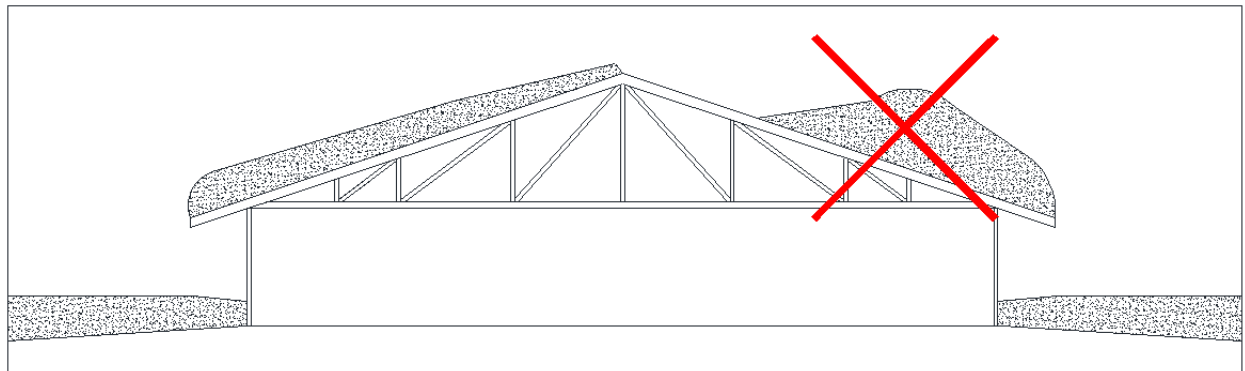

Figure 7. Roof snow load removed in an inappropriate manner – concentrated and unbalanced unloading.
- Pile large piles of moved snow atop the roof (Figures 7 and 8). A structure may be able to support a snow load when it is spread equally across, but once loads are combined over smaller portions of the roof, failure may occur in those areas. Remove snow gradually from the roof to the ground, starting with lower zones and working up to the peak as outlined above.